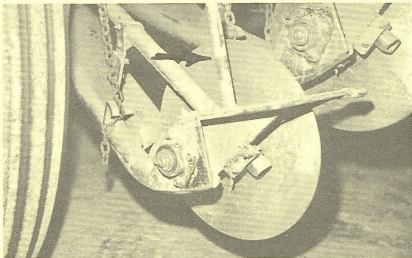

Figure 14. Weight peg extension
7. Weld weight peg extensions on existing pegs to provide a wider range of weight for varied drilling conditions (Figure 14).